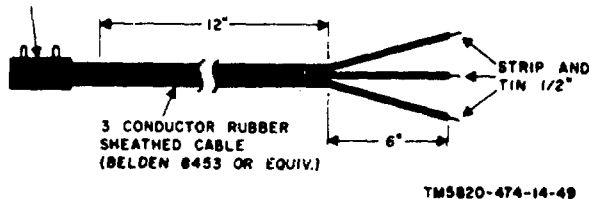

Figure 49. Test cable No. 4, construction details.
d. Test Cable No. 4 (fig. 49). Test cable No. 4 is used to connect the TRANS PWR jack to the dummy load resistors when either power supply is tested. One cable is required.